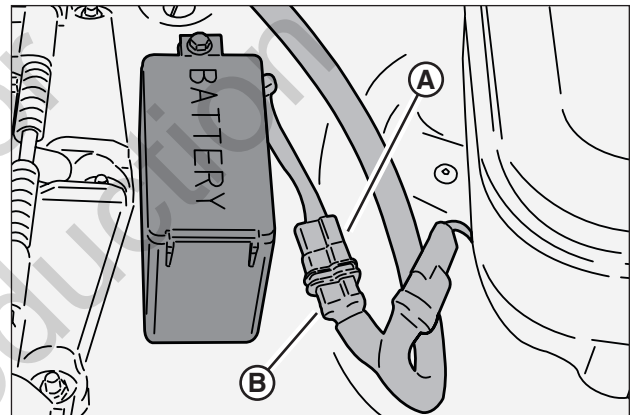

Figure 14: Charging the battery
1. Connect the battery charger to the battery connector (**A, Figure 14**), and plug the charger into a 120-volt outlet for 12-24 hours. (Longer periods will not damage the battery.)